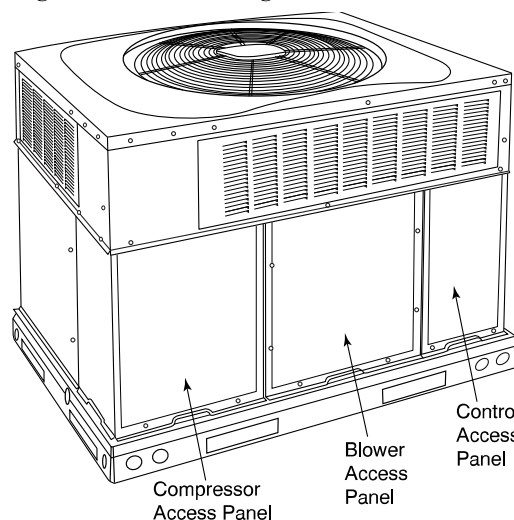

Fig. 42 – Unit Access Panels
An LED (light-emitting diode) indicator is provided on the integrated gas unit controller (IGC) to monitor operation. The IGC is located by removing the control access panel (see Fig. 42). During normal operation, the LED is continuously on (See Table 14 for error codes).
1. Remove control access panel. (see Fig. 42).
Remove blower access panel (see Fig. 42). Limit switch(es) are located on the fan partition.
3. Remove control access panel (See Fig. 42).